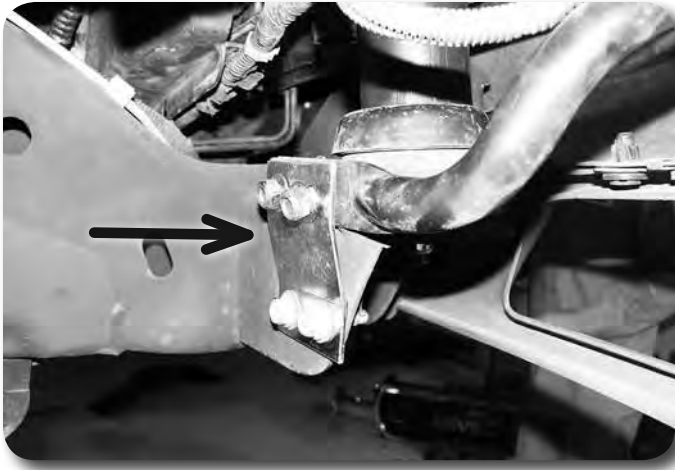

Figure 24
58. Mount the outside bumper support relocation brackets (shown) to the outside bumper support brackets with 7/16" x 1-1/4" bolts, nuts, and 3/8" USS washers. Do not tighten at this time **Figure 24**.
59. Loosely mount the relocation brackets to the original bracket location using the stock hardware **Figure 24**.